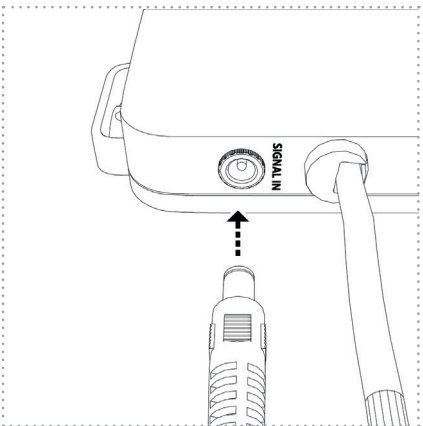

Figure 24
7. Then plug the connector of the signal cable into the designated socket on the UV unit (Figure 24). The UV unit should now be in standby mode and flash blue.